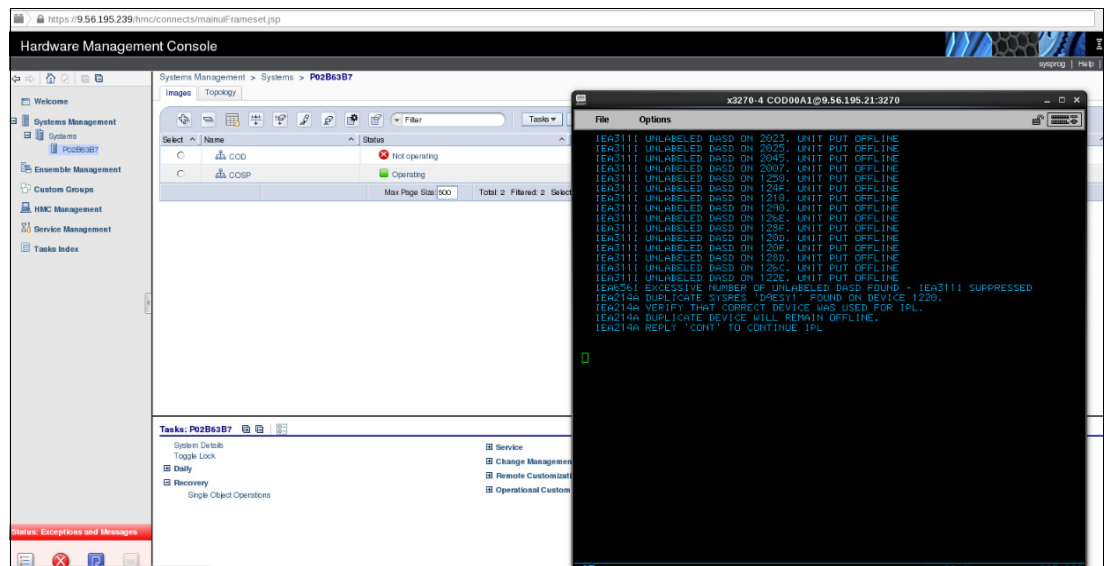

Figure 9-8 NIP console messages
7. We click **OK** to close the pop-up window and you can see the Nucleus Initialization Program (NIP) messages on the NIP console, which is our case is the local non-SNA 3270 console address 00A1, as shown in Figure 9-8.